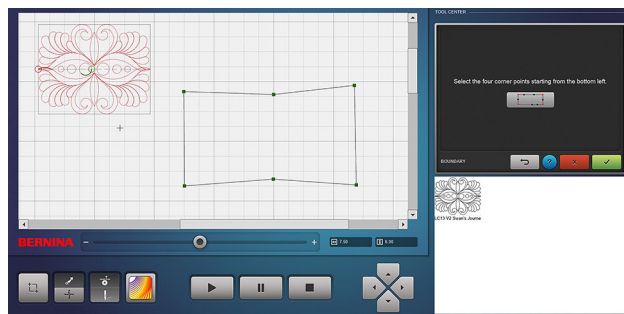

Fig. 44
3. Once the boundary is closed (Fig. 44), you will be prompted to select the four corner points as a positioning guide, starting at the bottom left